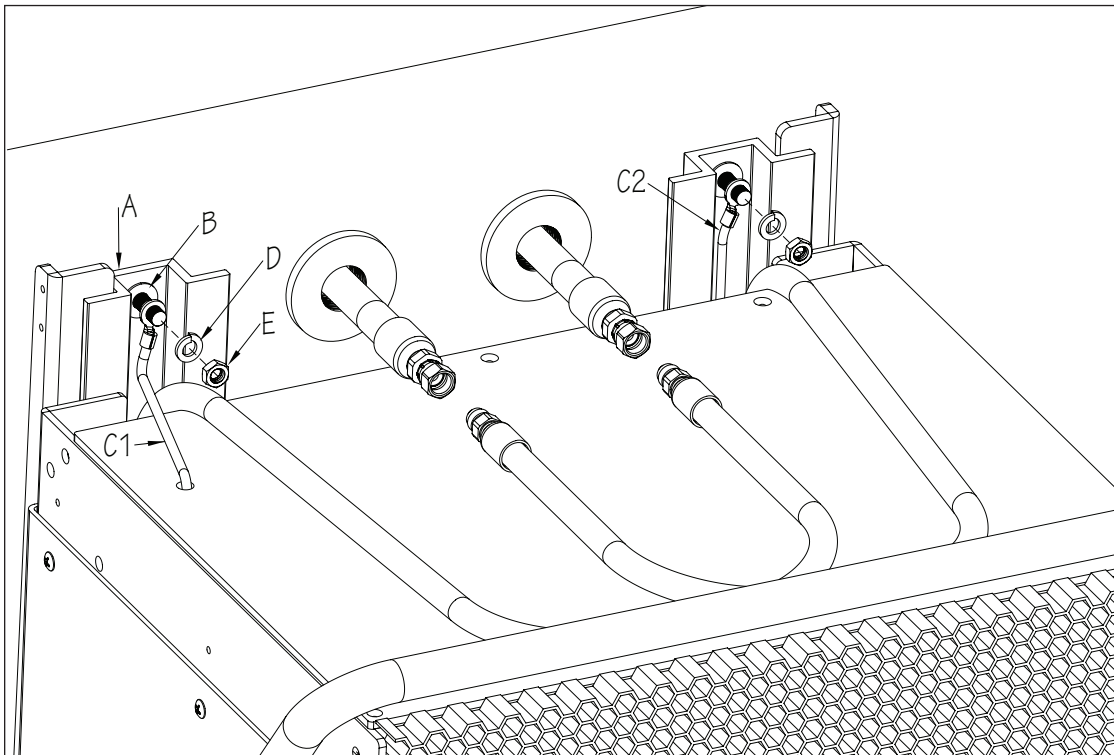

Fig. 9
2. With a minimum of two people, lower the Fastlane Pro into the pool. Align the mounting holes in the Hat Sections (A) with the Threaded Rods/Studs that protrude into the pool and hang the Current Unit.
Install a Flat Washer (B) and Bonding Wire (C1) and (C2) onto the Threaded Rod/Stud. **IT IS CRITICAL THAT BOTH BONDING WIRES ARE INSTALLED.** Secure Current Unit to the wall using Lock Washers (D) and Jam Nuts (E) (Fig. 9).